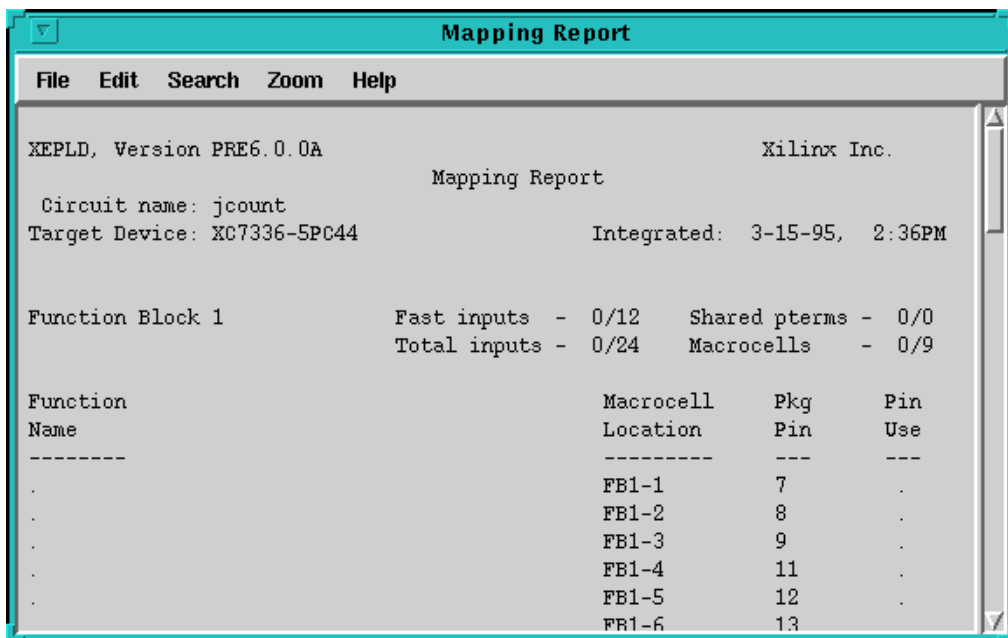

Figure 6-2 Example Report Window
2. Double click on the icon for the report of your choice. The report appears in its own window. Figure 6-2 shows an example report window.